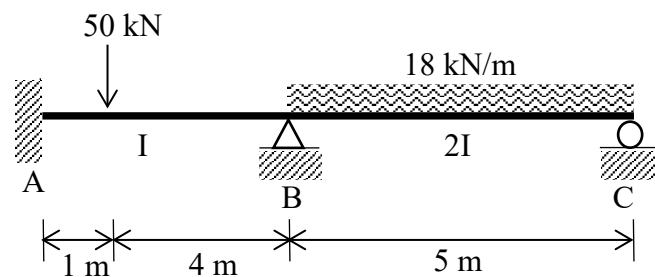

Figure B3/ Rajah B3
A continuous beam is fixed at A, while supported by pins and rollers at B and C that carry a uniformly distributed load and point load as shown in Figure B3. Use the Moment Distribution Method:
- CLO1 (a) Identify value of Fixed End Moment for support A, B and C in Figure B3.